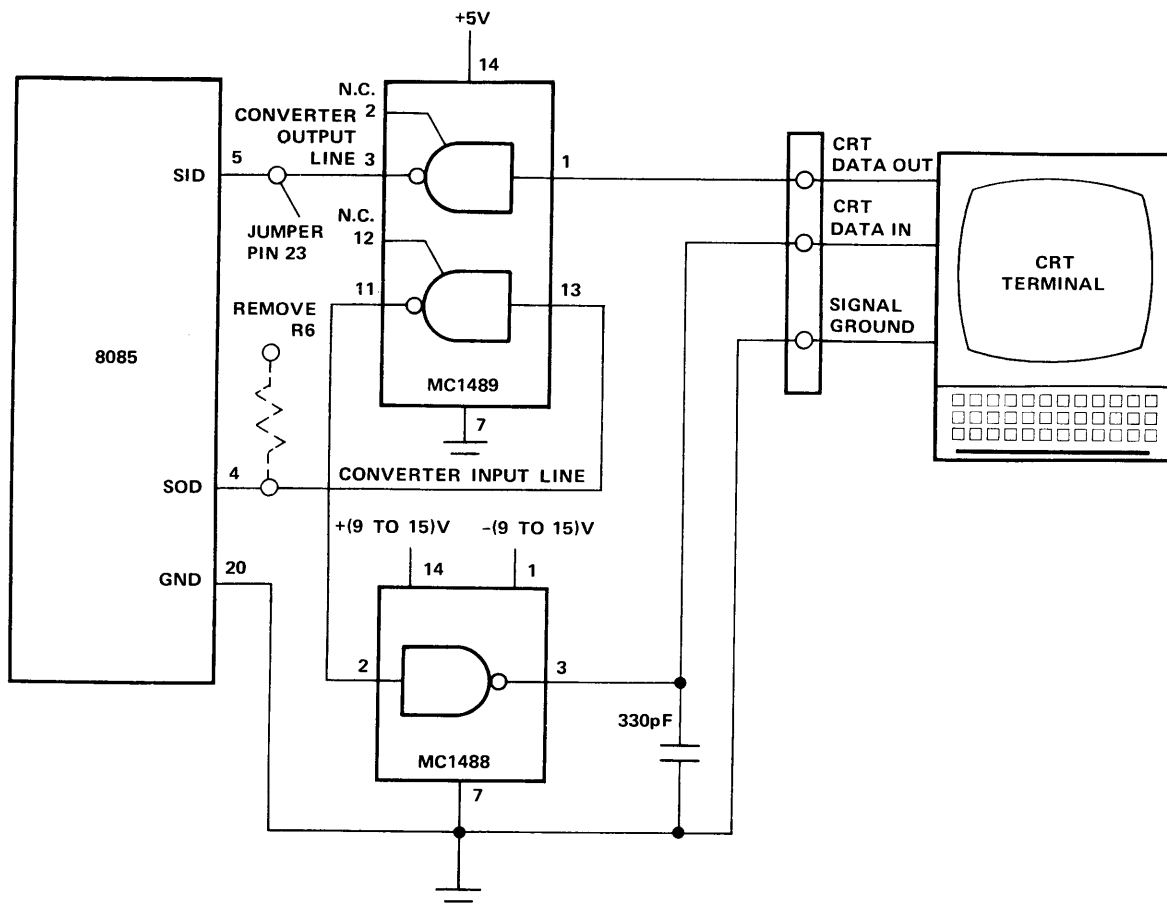

Figure 5-5 Modification for RS-232c Operation
- Wire the MC1488 and MC1489 converter circuit (shown in Figure 5-5) into the wire-wrap area of the SDK-85 board.
- Connect your CRT as shown in Figure 5-5.